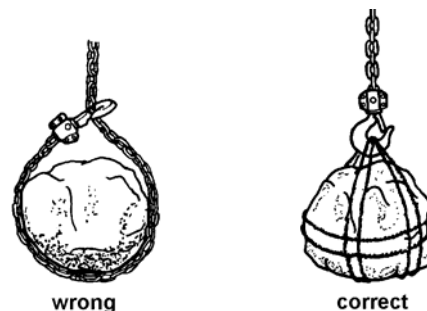

Figure 9
- ❑ When lifting loads, hook the load with slings. Do not use the puller chain as a sling, (Fig. 9).